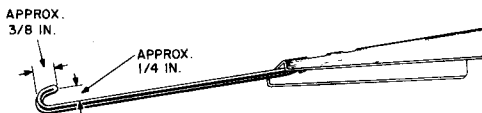
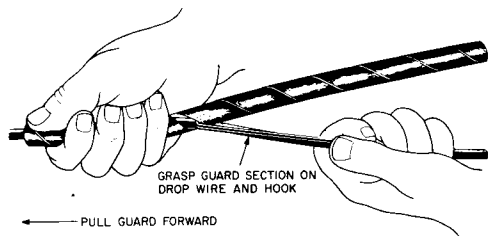
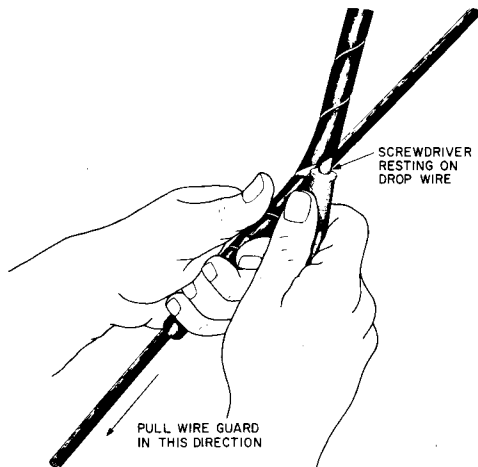

Fig. 1—Hook Fashioned From Drop Wire Clamp
Fig. 2—Placing P Wire Guard Hook Method
Fig. 3—Placing P Wire Guard Screwdriver Method
4.05 **P Wire** guards can be placed on drop wire by means of a hook tool fashioned from the tail wire of a drop wire clamp, or by using a screwdriver as a guide. (See Fig. 1, Fig. 2, and Fig. 3.)
already on the wire and pull guard away from the hook as shown in Fig. 2.
(3) When using screwdriver: After inserting the screwdriver blade into the part of the guard not on the wire and holding it in position shown in Fig. 3, grip the part of the guard already on the wire and pull guard away from the screwdriver.